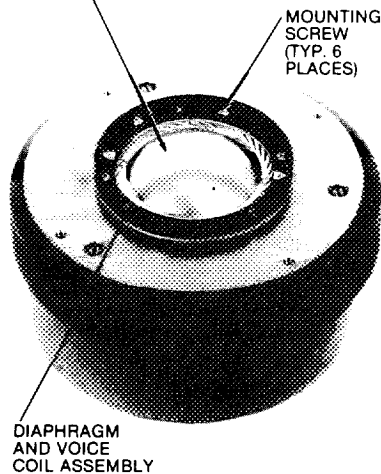

Figure 10. Diaphragm and Voice Coil Assembly Installed in Driver
5. Remove six screws securing diaphragm and voice coil assembly to driver. Carefully work diaphragm and voice coil assembly free from dowel locating pins and remove assembly (see Figure 10).
13. Carefully reinstall diaphragm and voice coil assembly; install six securing screws removed in Step 5. Exercise cautions noted in Step 4 and Figure 10 in accomplishing this procedure.